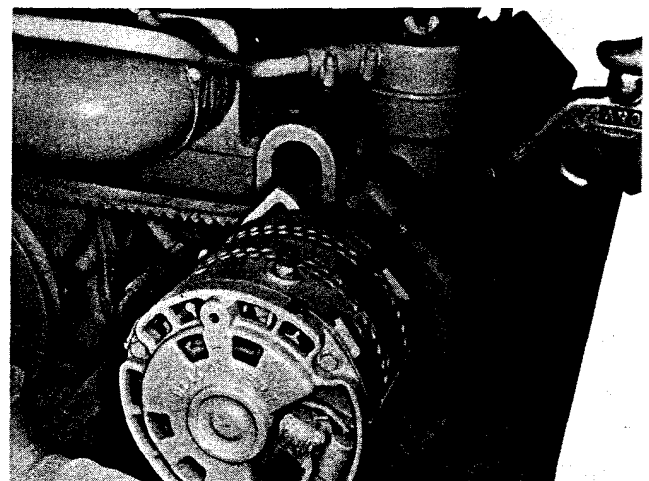

Fig. 2-24, (V21977). Blowing dust from alternator
1. Blow out dust and dirt with compressed air. Fig. 2-24.